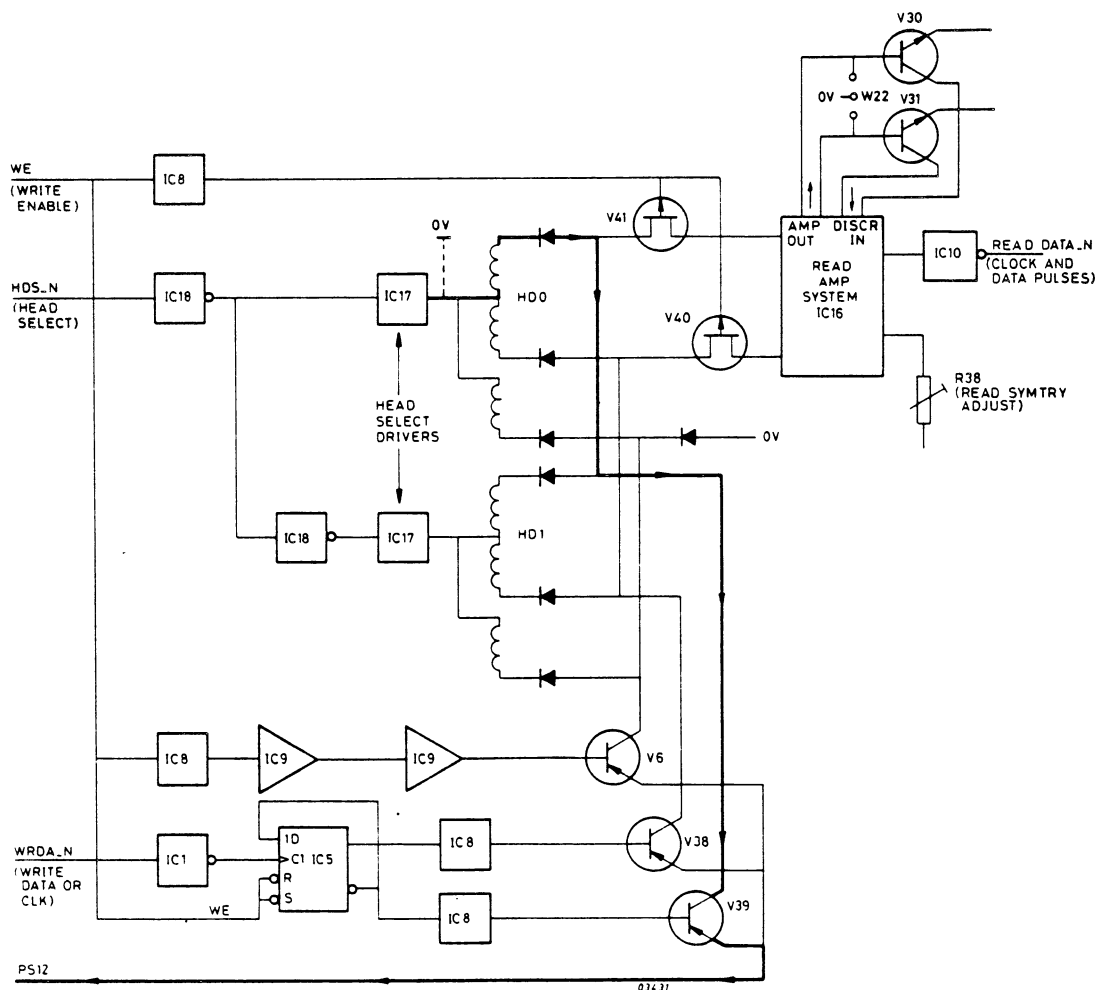

Figure 3.4 READ AND WRITE CIRCUITS SIMPLIFIED
3.9 READ CIRCUITS (FIGURES 3.4 AND 4.6/3)
V38 and V39 alternately draw current from the OR driver (IC17) of the selected head. In the X3111 and the X3113, head 1 and IC17 do not exist. The centre tap arrangement for X3111 and X3113 is shown dotted in figure 3.4.
One of the write current paths for head 0 is shown in figure 3.4.